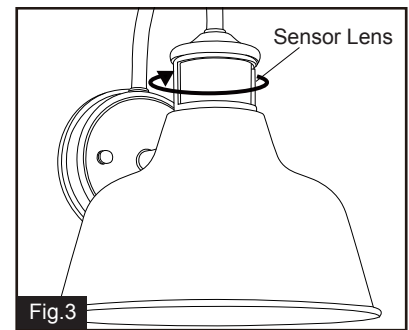

Fig.3
Step 3: Restore the sensor lens to original position. (See Fig.3)